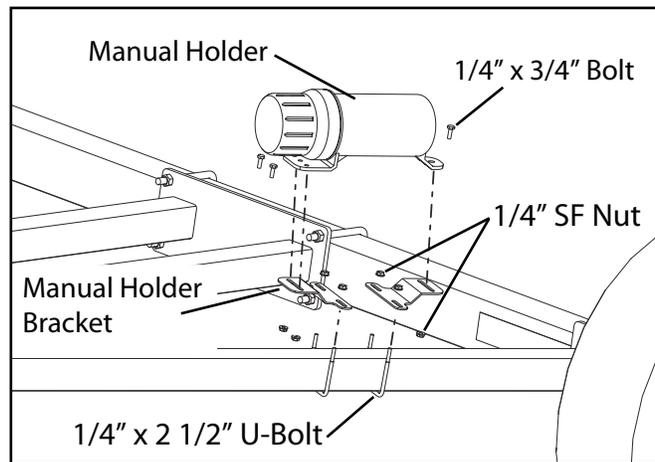

FIG. 3-20. Manual Holder Installation
2. Mount the plastic Manual Holder to the axle frame support using the components shown in Fig. 3-20.